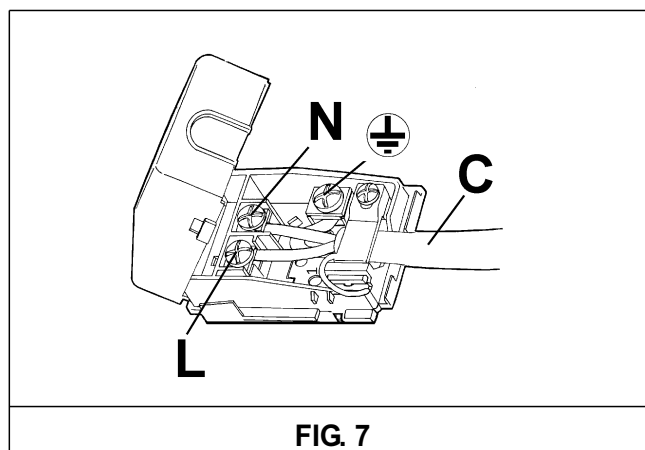

FIG. 7
- If a power cord is not supplied with the appliance, connect a cable with a suitable section to the terminal board (see the table in paragraph 6) keeping the ground wire longer than the lead wires in conformity with the diagram in fig. 7.
- apply to power cable "C", if not provided, a standard plug suitable for the load indicated on the information label. Connect the wires as in the diagram in fig. 7 taking care to observe the responses listed below: